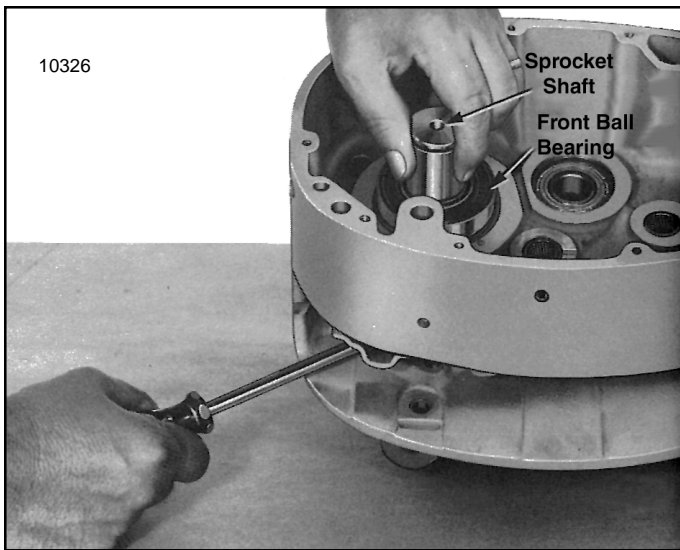
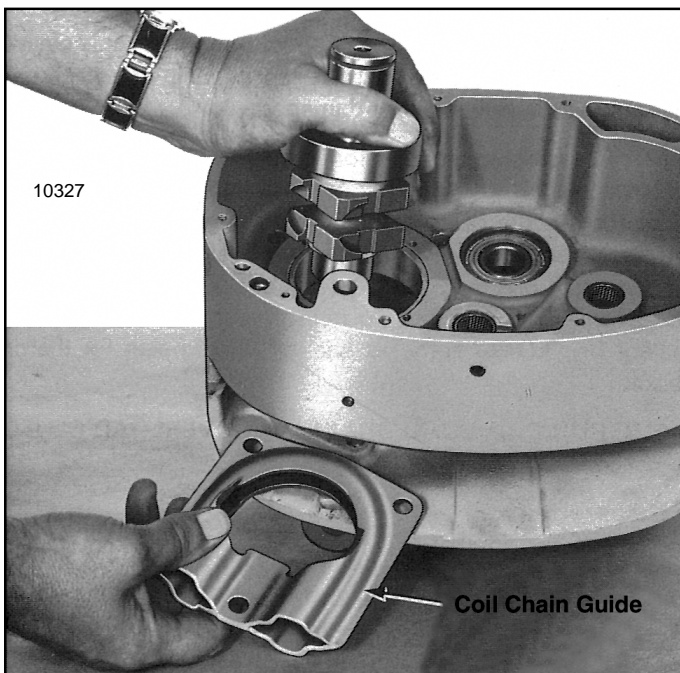

Figure 7-13. Removing Sprocket Shaft and Front Bearing
Figure 7-14. Chain Guide Being Removed From Frame as Sprocket Shaft is Lifted Out
- (4) Remove sprocket shaft and front ball bearing assembly from frame by lifting up on end of shaft while prying up on sprocket as illustrated in Figure 7-13. The chain guide will need to be repositioned in frame as sprocket shaft is raised to allow the sprocket to pass through hole of guide (Figure 7-14).